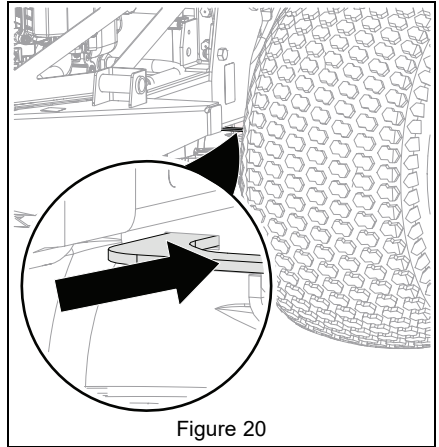

Figure 20
5. Return transaxle bypass levers to operating position. See Figure 20.